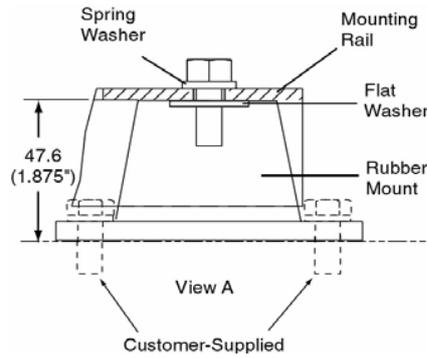

**Figure 1 – Rigging Setup**
**NOTE:** While the compressor is installed, you may be able to change the rubber mounts one by one without compressor removal and piping disconnection. Care must be exercised at all times when rigging or handling the compressor to protect it from damage. Two eye bolts (one at each side) are provided for compressor rigging. A spreader bar should be used to safely position the compressor into the final location. The rigging set up is shown in Figure 1.